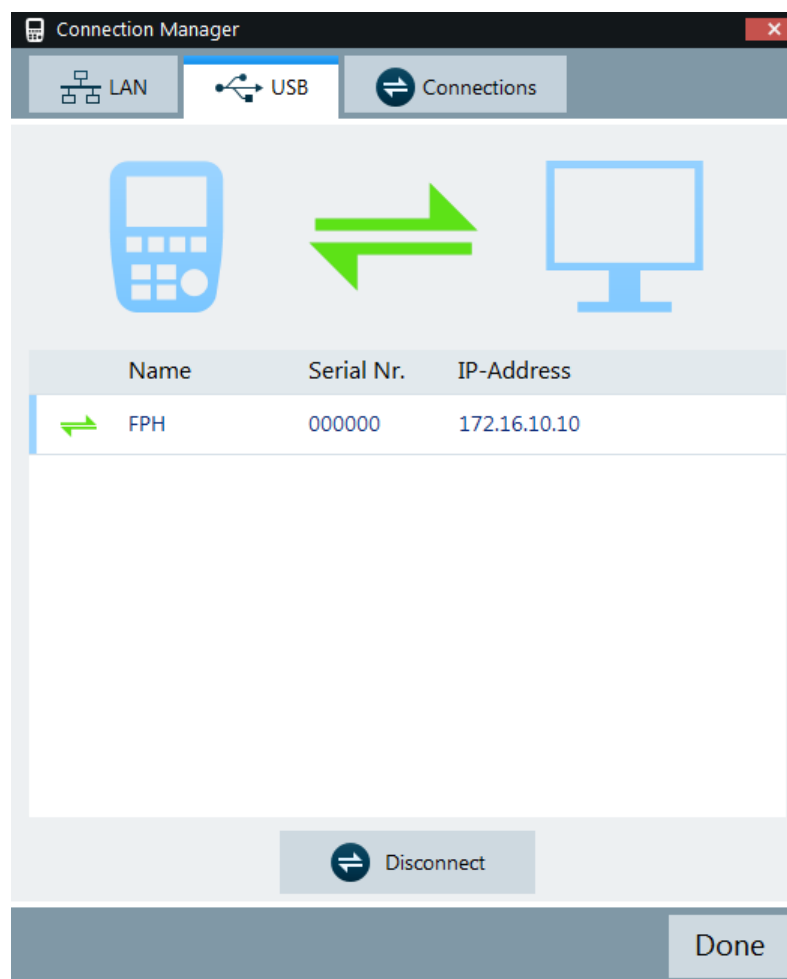

Figure 4-3: USB connection
3. There is only one USB instance in the connection manager list. See Figure 4-3. Depending on the connection status icon,   you can connect or disconnect an instrument from the connection manager list